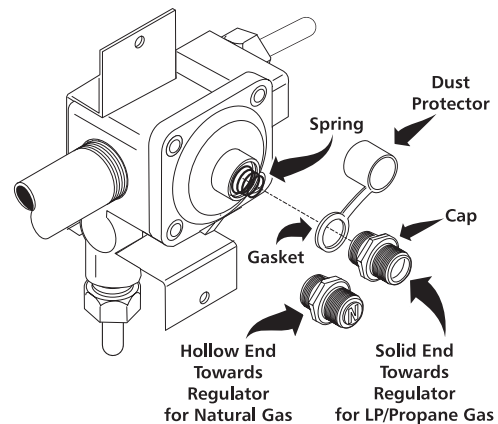

Figure 3
- Turn the cap over so the hollow end faces outward. Place the solid end of the cap into the loop end of the dust protector (See Figure 3).